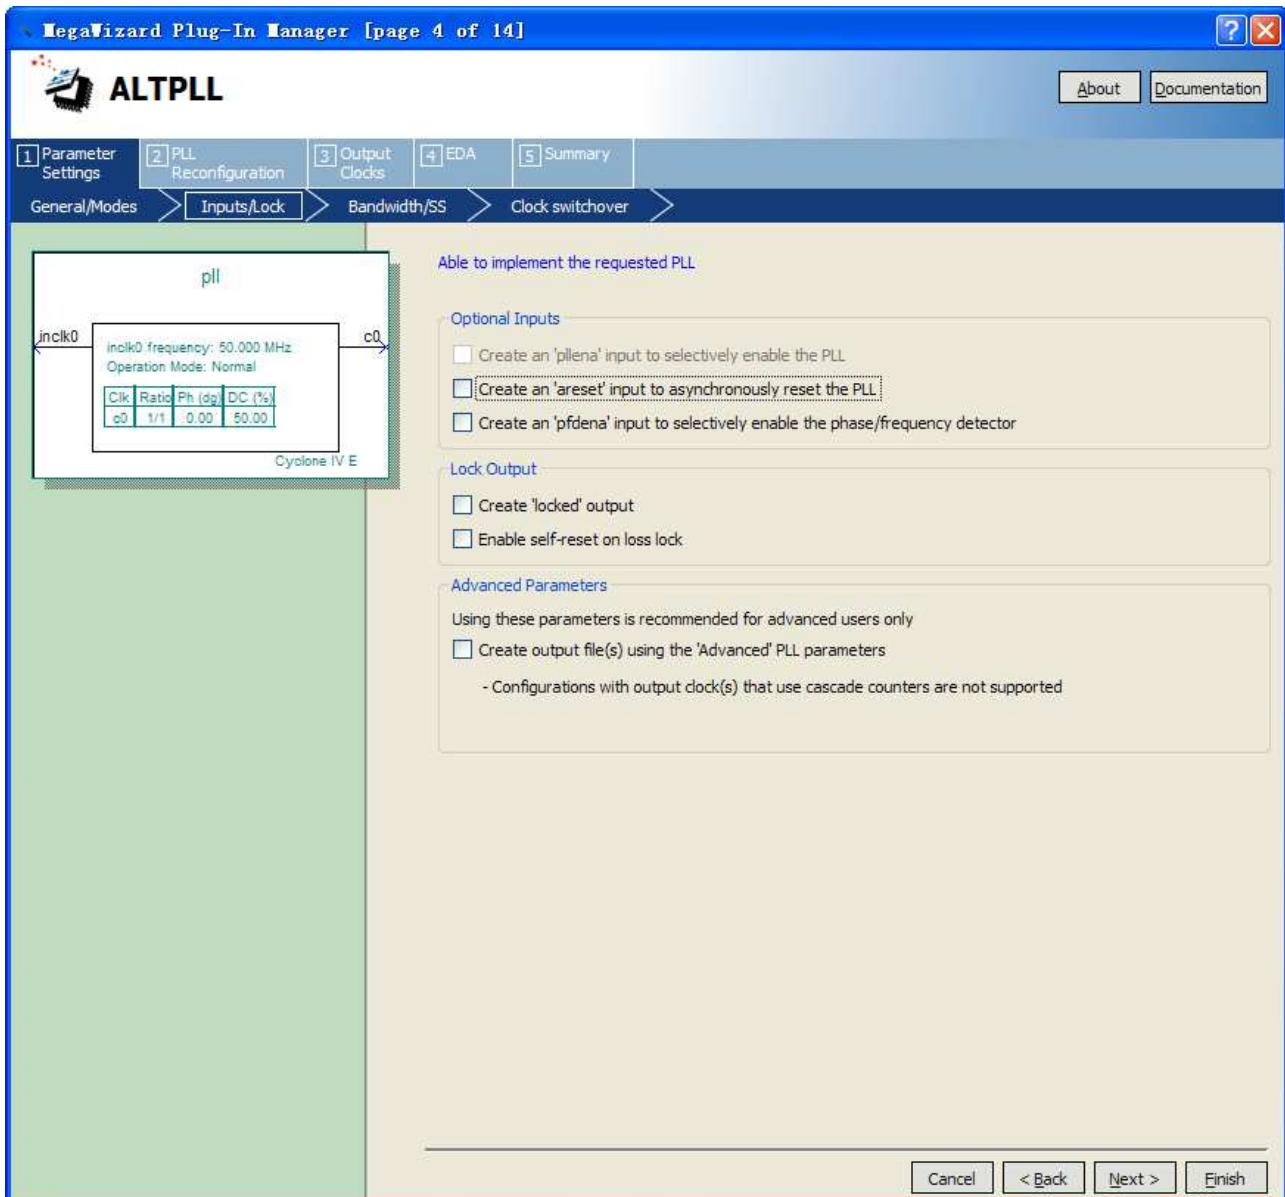

Figure 6-22 MegaWizard Plug-In Manager [page 4 of 14] Selections
6. Unselect all options on MegaWizard page 4. As you turn them off, pins disappear from the PLL block's graphical preview. See **Figure 6-22** for an example.